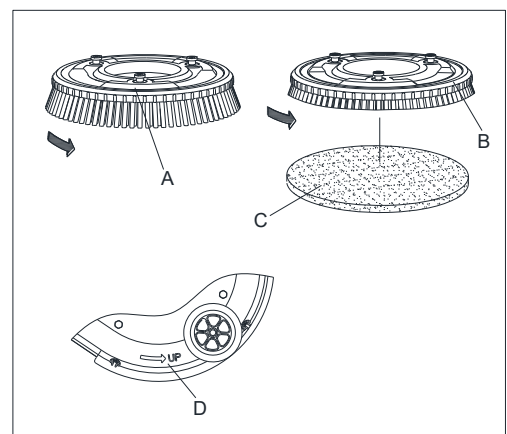

Figure 8
Install suitable brush (A, Figure 8) or Pad (B and C, Figure 8) according to the type of floor to be cleaned.
2. Put the brush/pad holder on the floor under the brush hub and align their center, then rotary the brush/pad holder in the direction (D as Figure 8) show to install it manually.